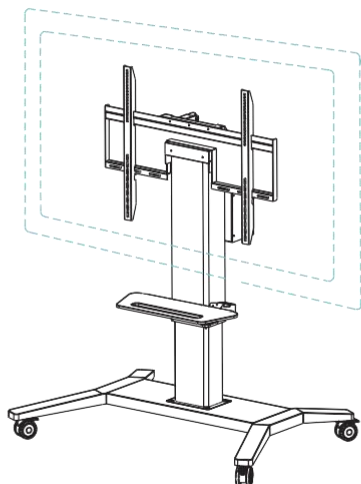

figure 10
Step10: Done, as shown in figure 10.